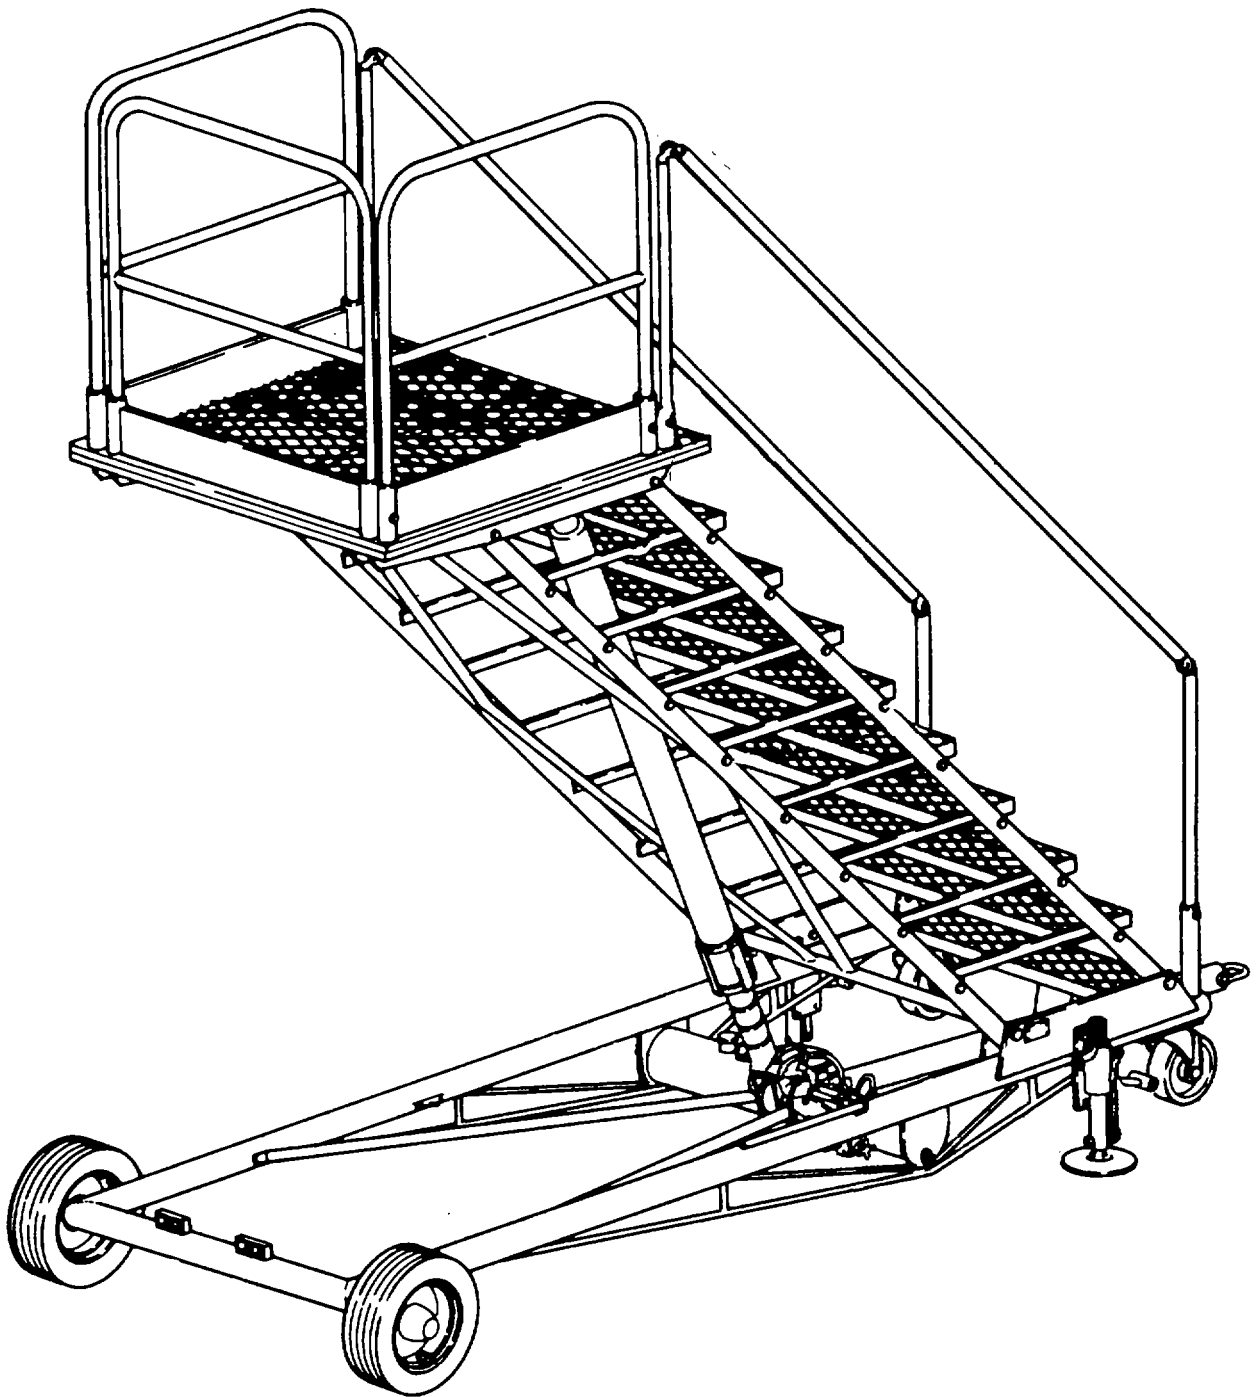

Figure 9-1. Type B-1 Maintenance Platform
(1) Maintenance platform, type B-1. The B-1 maintenance platform, as shown in figure 9-1, is a portable, variable-height, stair and platform assembly. The work platform is hydraulically raised and lowered, and is accessed by an adjustable stair assembly.